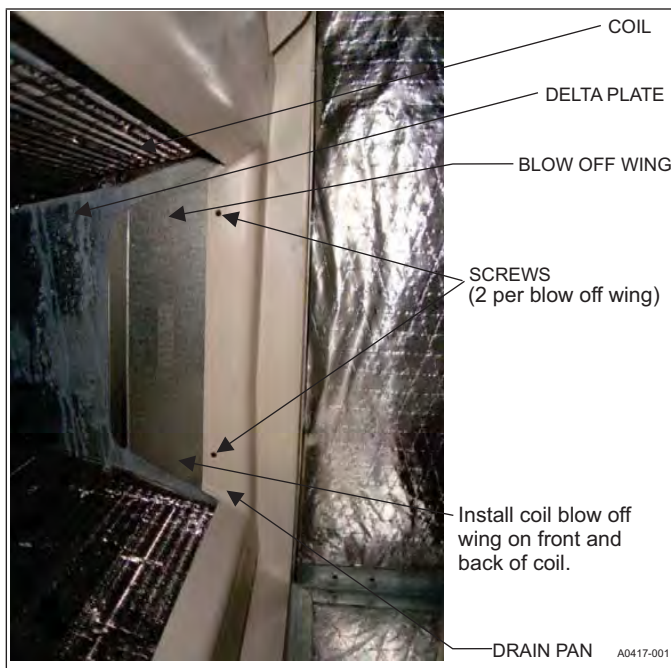

FIGURE 5: Coil Blow Off Wing Installation
- For horizontal right applications, install front and back coil blow off wings (blow off wings shipped as loose parts with the unit). Locate 4 screws securing coil delta plates to coil drain pan. Loosen the screws. Slide each coil blow off wing between the drain pan and the coil delta plate. Tighten screws to securely anchor coil blow off wings. Refer to Figure 5.